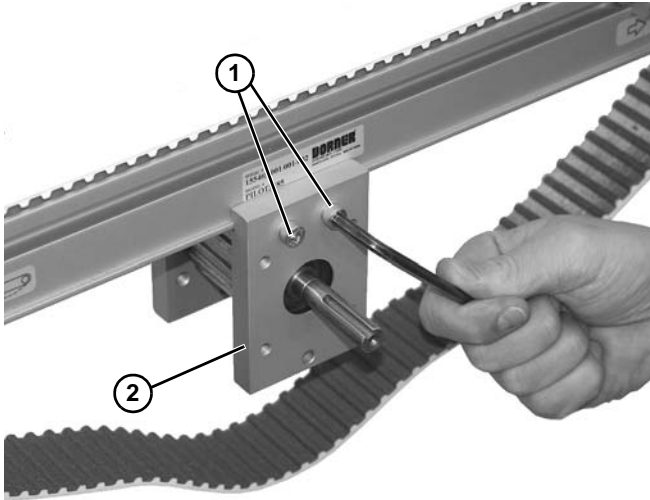

Figure 84
2. Remove two screws (Figure 84, item 1) from each side of mounting block (Figure 84, item 2).